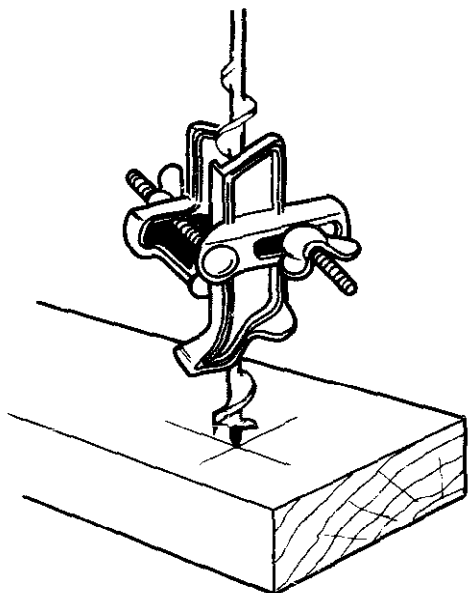

Fig. 10-40 Boring a hole to depth with a bit gauge.
1. Select the type of bit gauge to be used. If type A, figure 10-40, is used, open it to permit fitting the bit by releasing the wingnuts.
6. Refer to figure 10-40. Insert the bit with the attached bit gauge in a brace and bore as described for vertical boring.